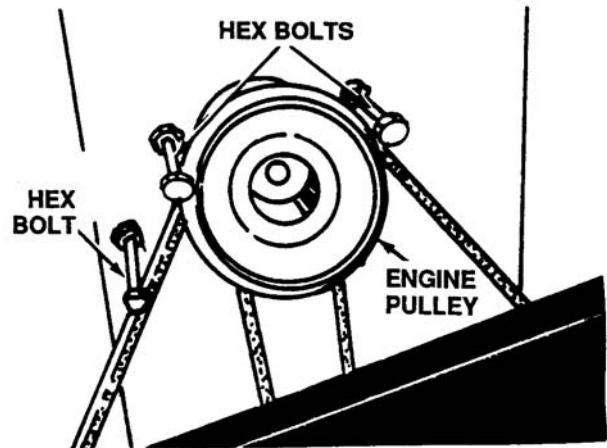

Figure 12-41. Location of Hex Bolts (Belt Keepers)
2. Remove the hex bolts (belt keepers) from the engine pulley belt guard. See Figure 12-41.